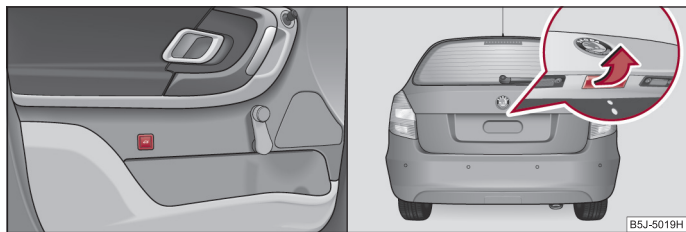

Fig. 29 Unlock the boot lid / handle of the boot lid
- On vehicles with central locking** unlock the boot lid by pressing the button on the driver door ⇒ fig. 29.